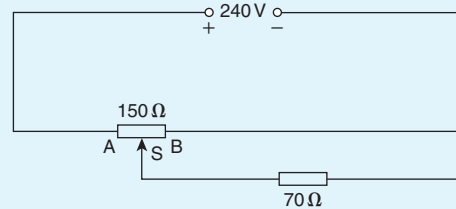

Figure 5.48
5. For the potentiometer circuit shown in Fig. 5.48,  $AS$  is 60% of  $AB$ . Calculate the voltage across the  $70\ \Omega$  load.